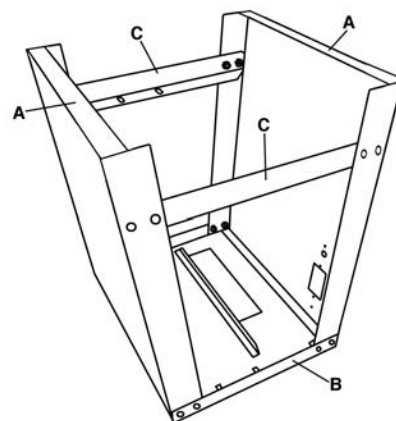

FIGURE 4
All parts of the stand except for the rubber feet get assembled together using carriage bolts, washers and hex. nuts. Attach the stand sides (A) Fig.4 to the stand top (B), make sure the switch opening in the stand side is on the same side as the V-belt opening in the stand top. Then assemble the side braces (C) to the stand sides (A). Do not completely tighten the hex. nuts at this time.